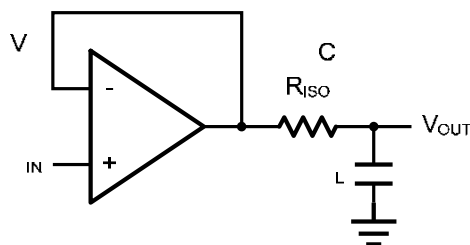
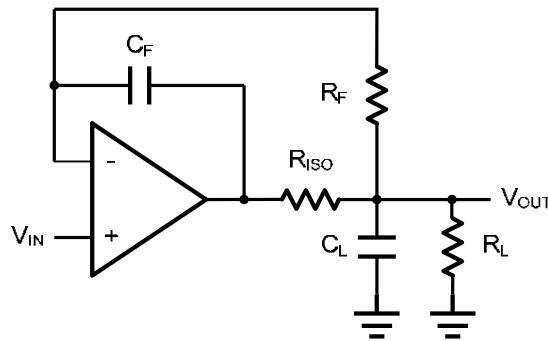

Figure 2 Indirectly Driving a Capacitive Load Using Isolation Resistor
Figure 3. Indirectly Driving a Capacitive Load with DC Accuracy
The LMV3xxIDRG4 family is optimized for bandwidth and speed, not for driving capacitive loads. Output capacitance will create a pole in the amplifier's feedback path, leading to excessive peaking and potential oscillation. If dealing with load capacitance is a requirement of the application, the two strategies to consider are (1) using a small resistor in series with the amplifier's output and the load capacitance and (2) reducing the bandwidth of the amplifier's feedback loop by increasing the overall noise gain. Figure 2 shows a unity gain follower using the series resistor strategy. The resistor isolates the output from the capacitance and, more importantly, creates a zero in the feedback path that compensates for the pole created by the output capacitance.
The circuit in Figure 3 is an improvement to the one in Figure 2. R_F provides the DC accuracy by feed-forward the V_{IN} to R_L . C_F and R_{ISO} serve to counteract the loss of phase margin by feeding the high frequency component of the output signal back to the amplifier's inverting input, thereby preserving the phase margin in the overall feedback loop. Capacitive drive can be increased by increasing the value of C_F . This in turn will slow down the pulse response.